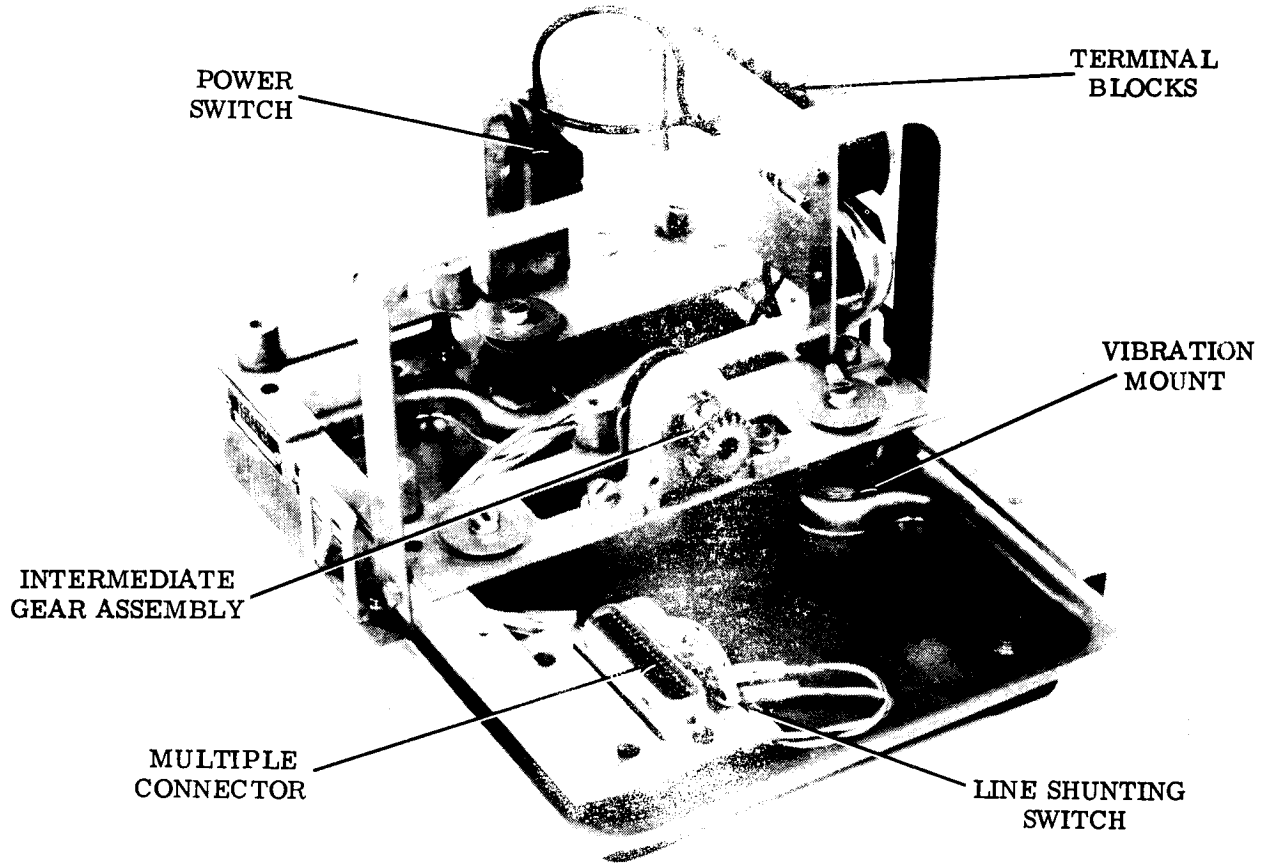

Figure 5 - Multiple Moundog Base
2.12 This base is designated miniature because of its compactness (Figure 5). The mounting facilities for a transmitter distributor are virtually the same as those for the single contact transmitter distributor base. However, this base is much shorter and lighter since the motor used on it is small and requires very little space for mounting.